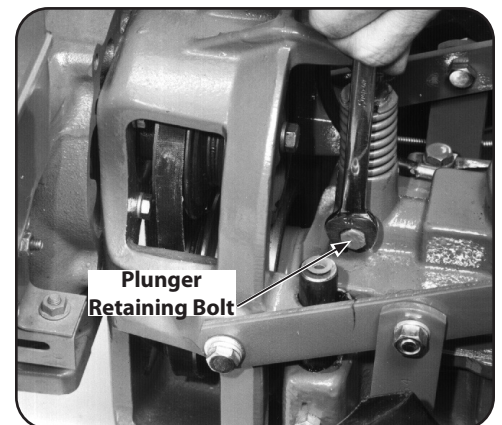

Figure 5-24
8. Place a chalk or pencil mark on the top edge of the plunger retaining bolt. Now, while watching the mark, loosen the bolt 3/4-turn. See Figure 5-24. Do not exceed a 3/4 turn. This would disengage the bolt from the locking groove in the side of the plunger.